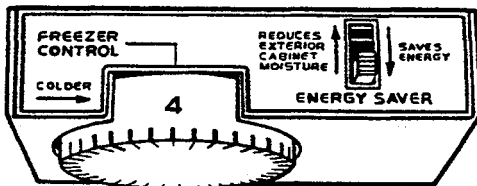

Figure 2
- b. Locate freezer control at inside left front top corner of the freezer section. See Figure 2.